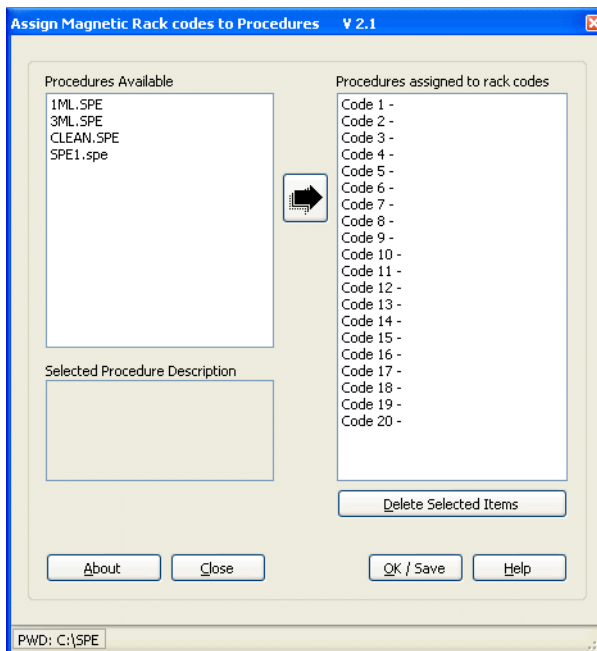

Figure 37. Assign Magnetic Rack Codes Window
- 1 Select **Start**→**Programs**→**Biotage**→**RapidTrace SPE**→**MAGASIGN**. The **Assign Magnetic Rack Codes to Procedures** window opens as shown in Figure 37.